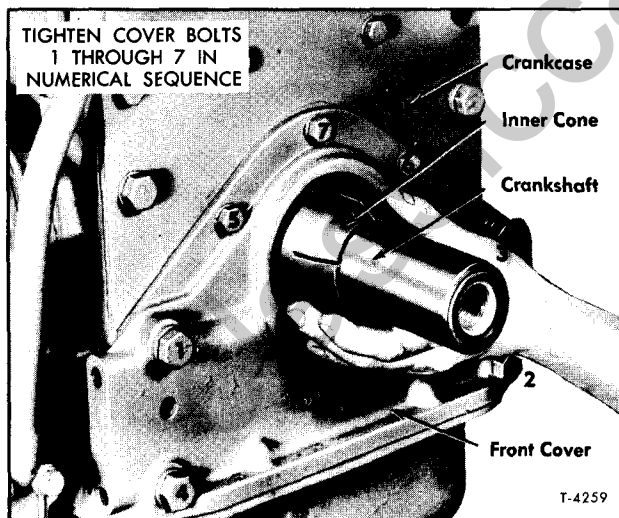

Figure 29—Front Cover and Damper Cone Installation and Bolt Tightening Sequence
ed end of cone pointing toward front end of crankshaft (fig. 29).
4. Following sequence shown in figure 29, tighten 3/8-24 bolts to 25 to 30 foot-pounds torque, and 1/2-13 bolts to 80 to 90 foot-pounds.